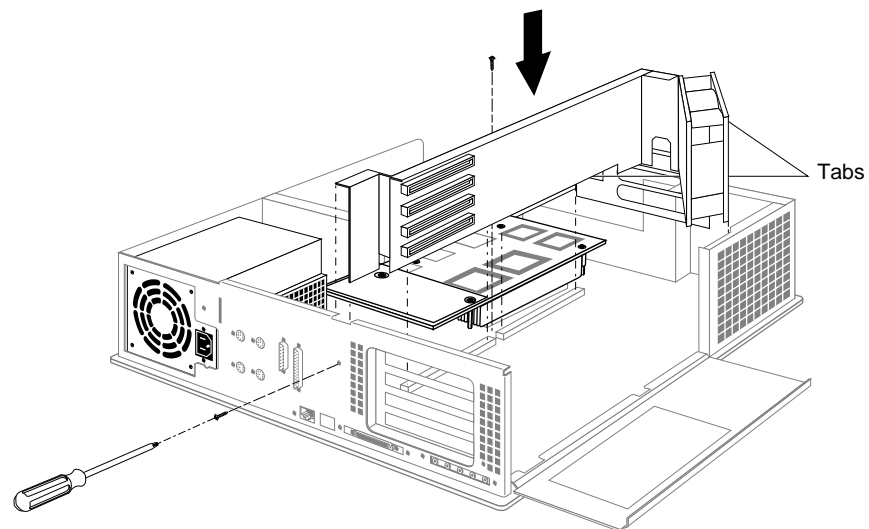

Figure 2-20 Installing the Backplane
10. Install the backplane. Lower it into position, and press firmly to seat the backplane connectors in the slots on the IP26 base board. See Figure 2-20.